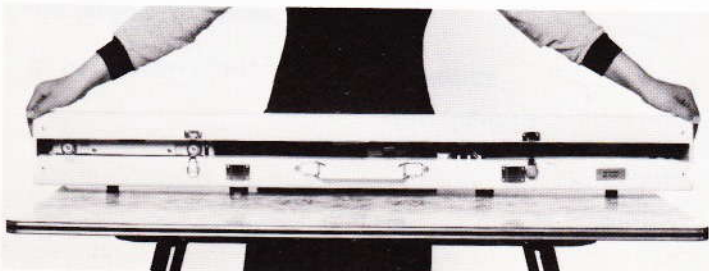

Fig. 4
- Open the 2 locks. Lift up the cover and remove it from the main part of the machine (fig. 4).